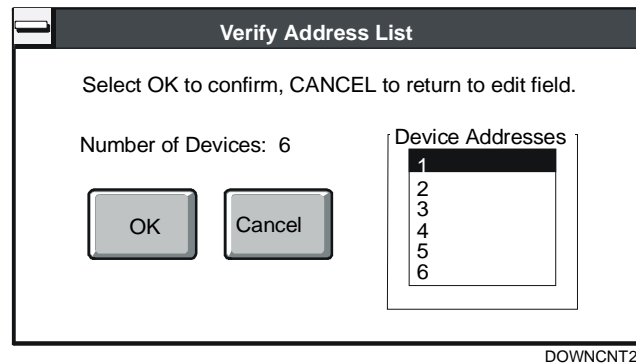

Figure 3-6: Verify Address List Dialog Box
- Verify the communication selections and press Enter. When you enter multiple N2 Device addresses, a dialog box similar to Figure 3-6 appears.